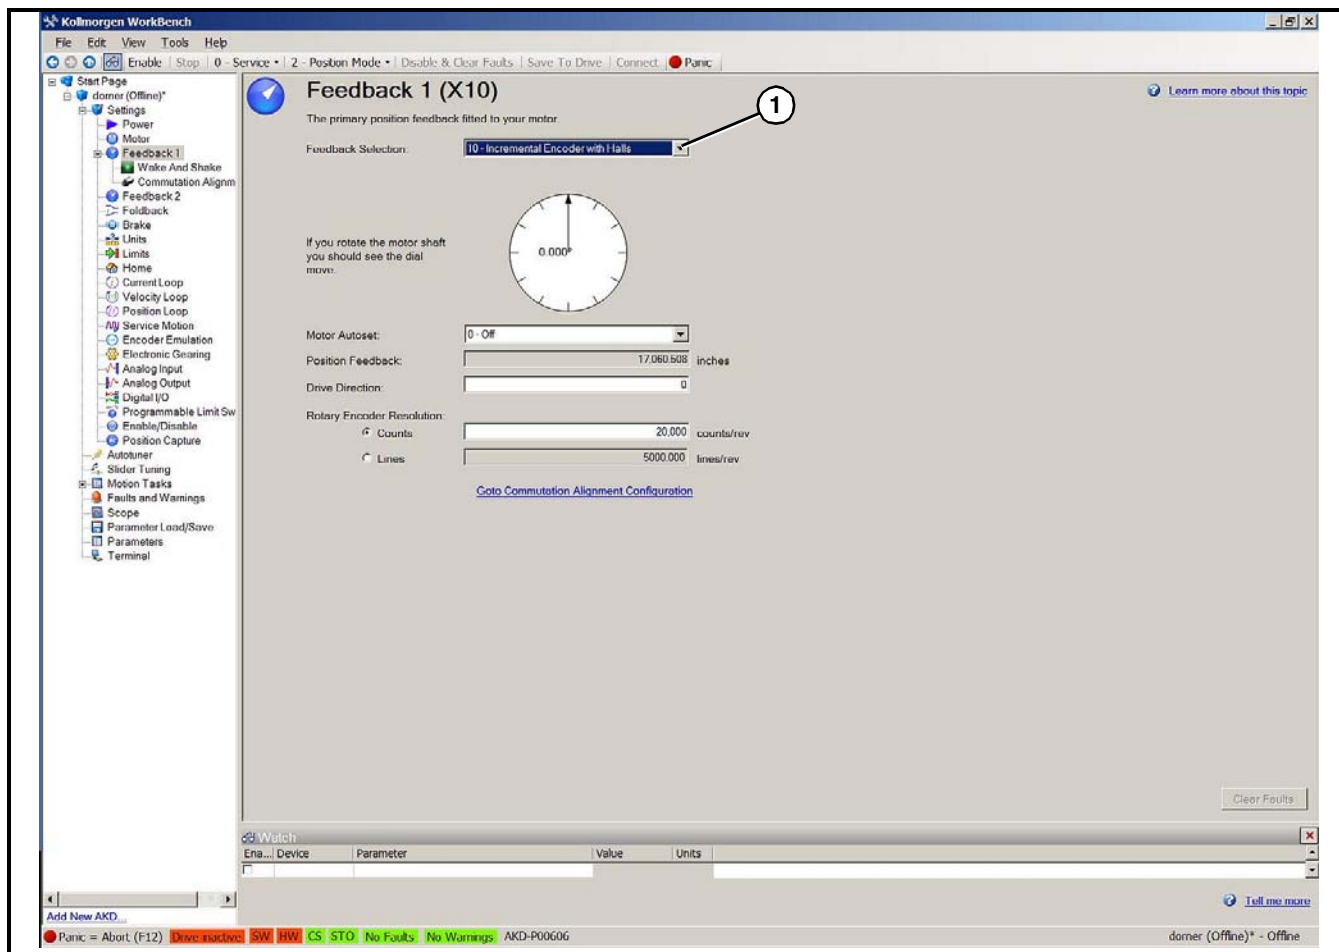

Figure 41
Feedback Selection (Figure 41, item 1): Select -1- Auto Identify. The controller will identify the feedback device.